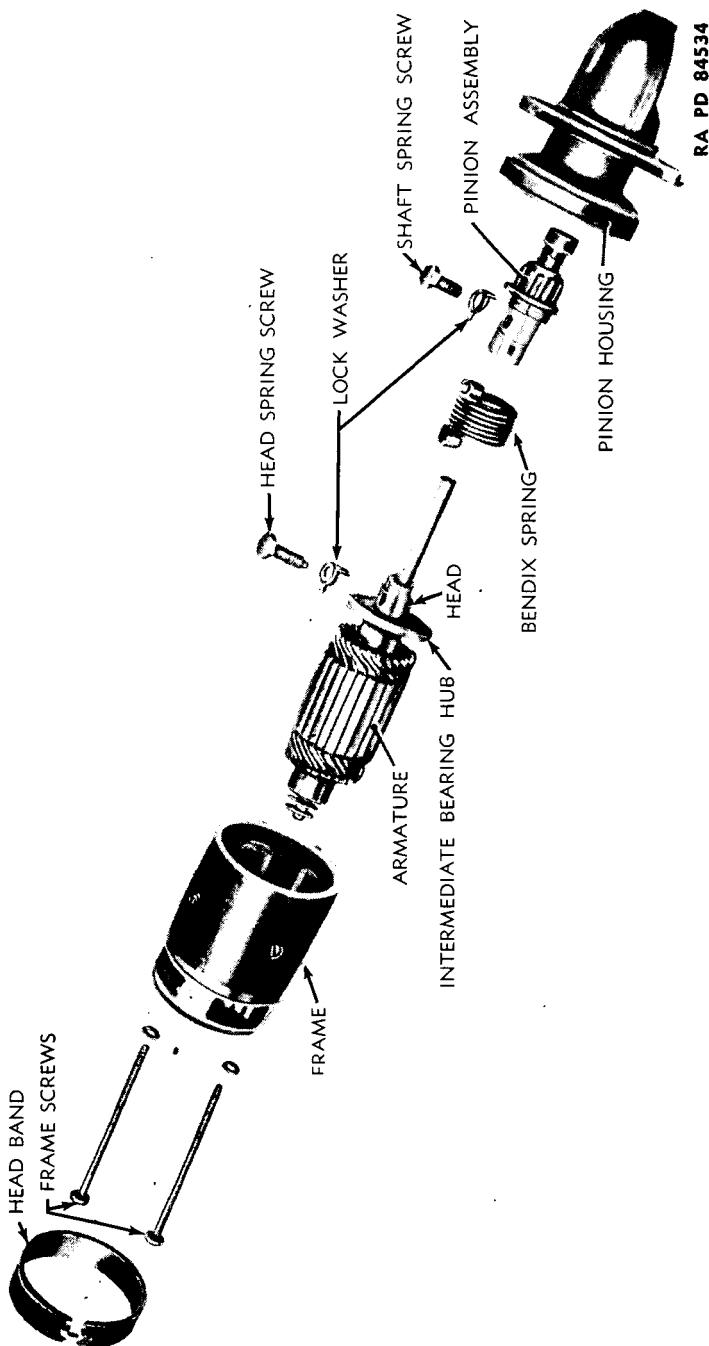

Figure 73—Starting Motor Bendix Spring Removal
(1) INSTALL STARTING MOTOR. Place motor in position on front of bell housing, securing it with the three cap screws and lock washers.
(2) ATTACH STARTER LEAD. Bring lead from starter switch to post on frame of starting motor, and attach with nut provided.
g. Bendix Spring Removal (fig. 73).
(1) Remove starting motor (step e, above).
(2) Loosen head band clamp screw, and remove commutator end head band.
(3) Remove the two frame screws, and pull pinion housing and armature from starting motor frame. Do not separate commutator end head from frame.
(4) Slide pinion housing from armature shaft.
(5) Bend down the lip on each lock washer, and remove head spring screw and shaft spring screw.
(6) Slide pinion assembly off armature shaft, and lift off Bendix spring.
h. Bendix Spring Installation (fig. 73).
(1) Thoroughly clean Bendix drive parts in SOLVENT, dry-cleaning, and apply a few drops of OIL, engine, SAE 10 to armature shaft, pinion shaft, and armature shaft bearings.
(2) Slide Bendix spring and pinion assembly in position over armature shaft. Using a lock washer (special) over each screw, secure spring to head and armature shaft, using head spring screw (doweled). NOTE: Doweled portion of head spring screw must enter hole in armature shaft. Secure spring to pinion assembly using shaft spring screw. Lock screws by bending up the lip on each lock washer.